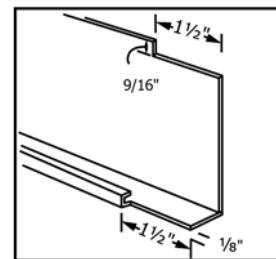

FIG. 36 Trimming Fascia Corner Ends
11.5.1 Trim the fascia cover ends at the corners as in Fig. 36.